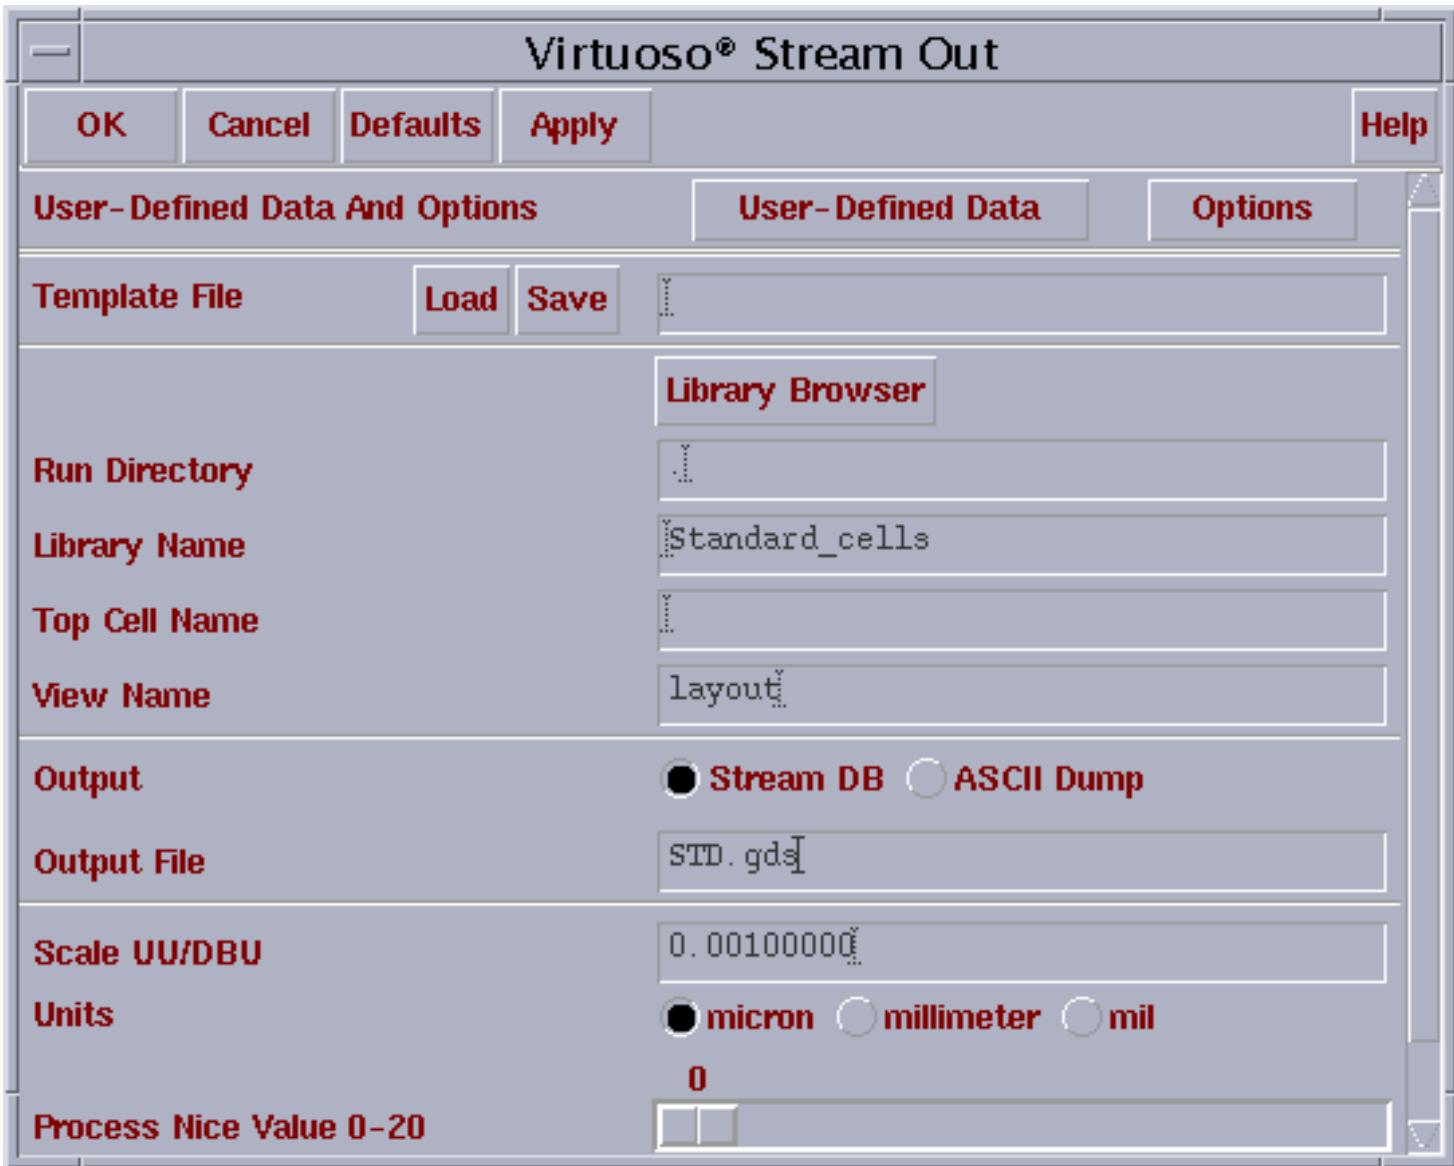
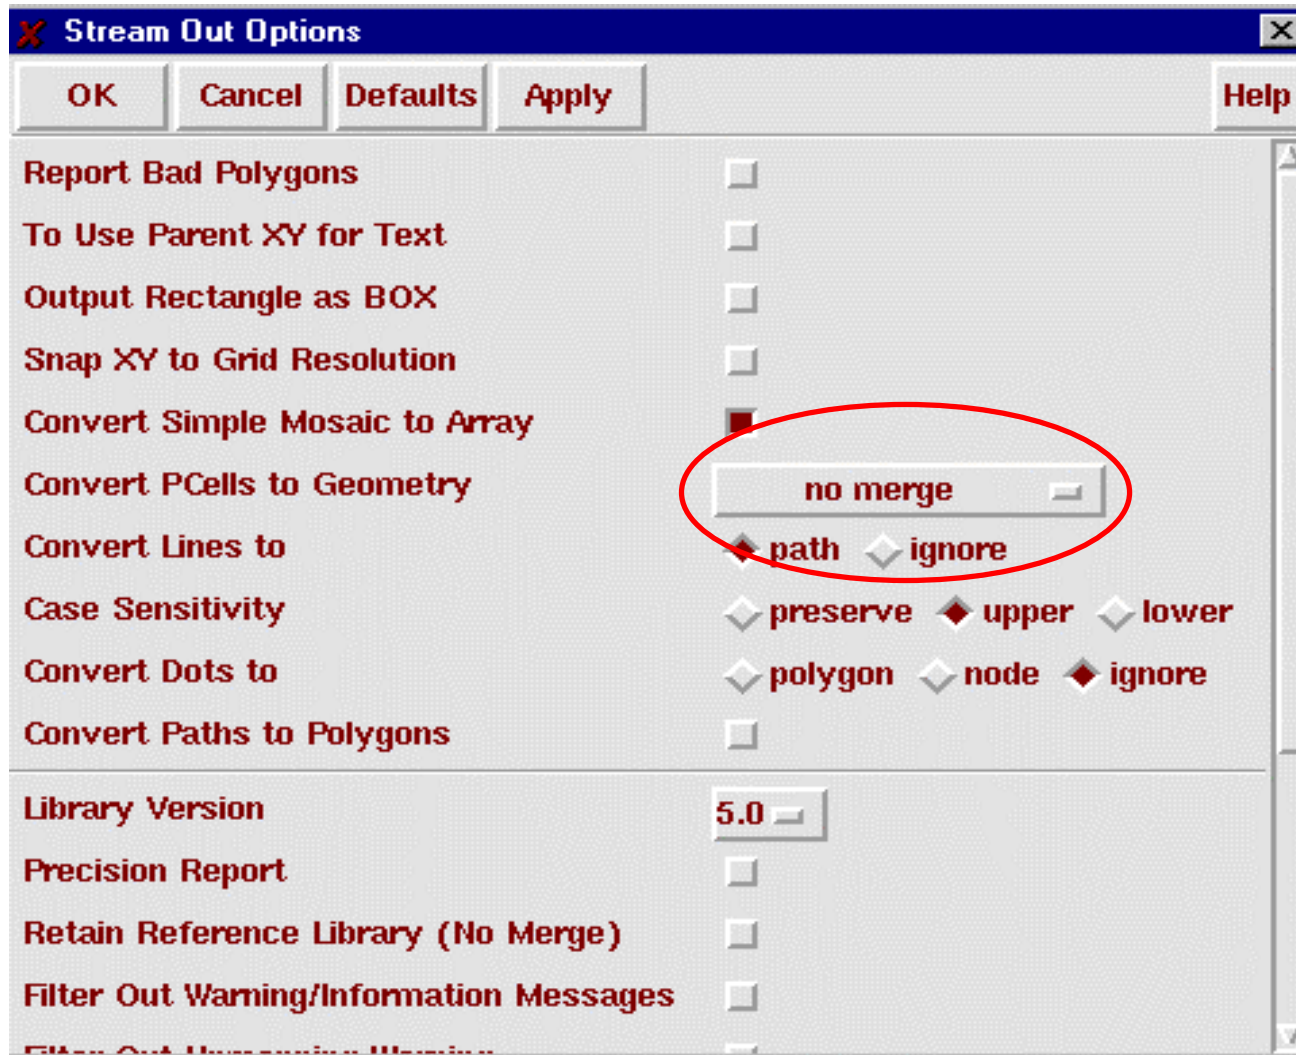

Figure 1
Figure 3: Stream Out Options Form
- Now, back in the **Virtuoso Stream Out** Form (Figure 1), click on the **Options** button. A new form, the **Stream Out Options** form will appear (Figure 3).